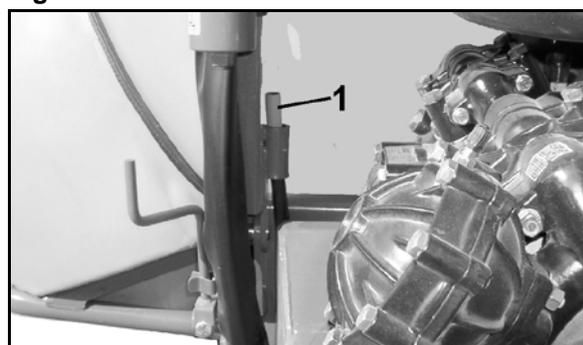

Fig. 51
- The red mark (Fig. 51/1) on the stand control display is visible if the machine is resting on the hydraulic stand.